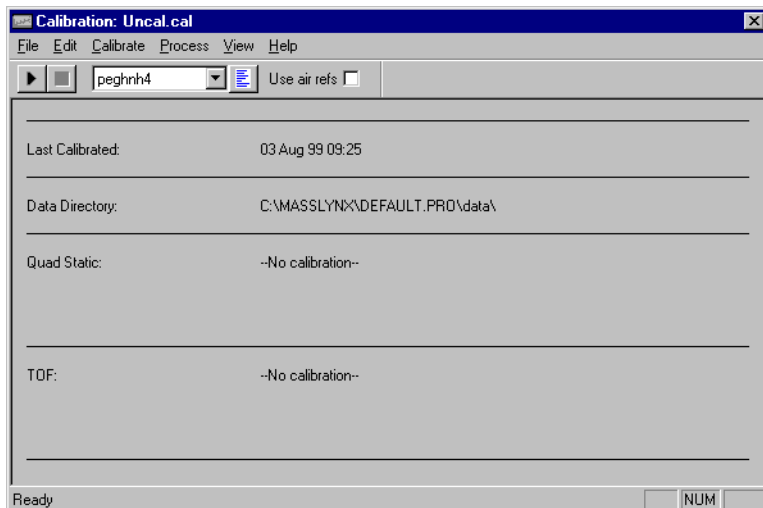

Figure 7-8 The Calibration Window.
1. Select **Calibration > Calibrate Instrument** from the Tune Page. This invokes the Calibration Window (Figure 7-8).
10. The calibration will be updated with the time of the update displayed in the **Calibration Window** (Figure 7-8).